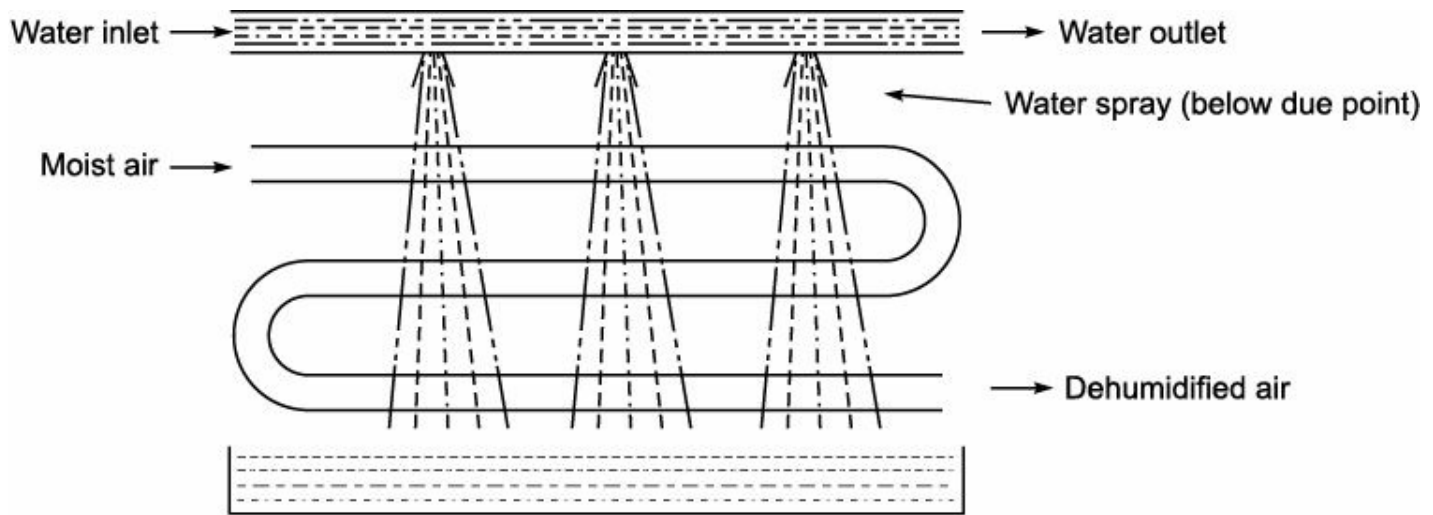

FIGURE 2.12 Spraying of water on moist air.
3. When moist air is passed over a solid adsorbent surface or it is passed through a liquid adsorbent spray, dehumidification bounds to take place. In this case, the dehumidification takes place because of lowering the water vapour pressure. The solid adsorbents used here are silica gel or activated alumina. The liquid adsorbents are the solution of inorganic salt, such as brine, lithium chloride and the organic compound, such as ethylene glycol. A typical approaches to dehumidification process is shown in Figures 2.12 and 2.13. The adsorbents are reactivated time to time and reused.